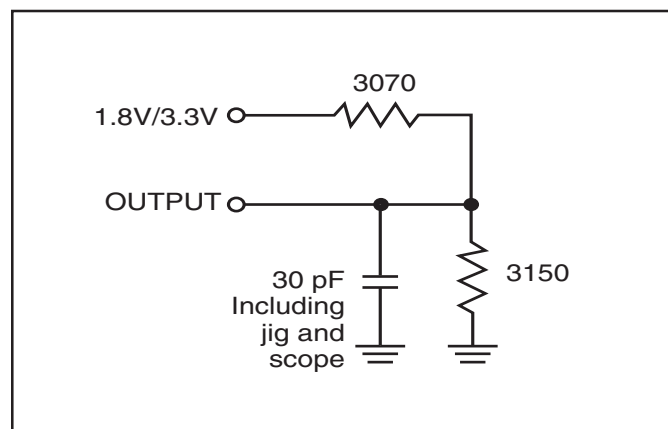

Figure 1
1. Test conditions assume signal transition times of 5 ns or less, timing reference levels of 0.9V/1.5V, input pulse levels of 0.4 to $V_{DD}-0.2V$ /0.4V to $V_{DD}-0.3V$ and output loading specified in Figure 1.